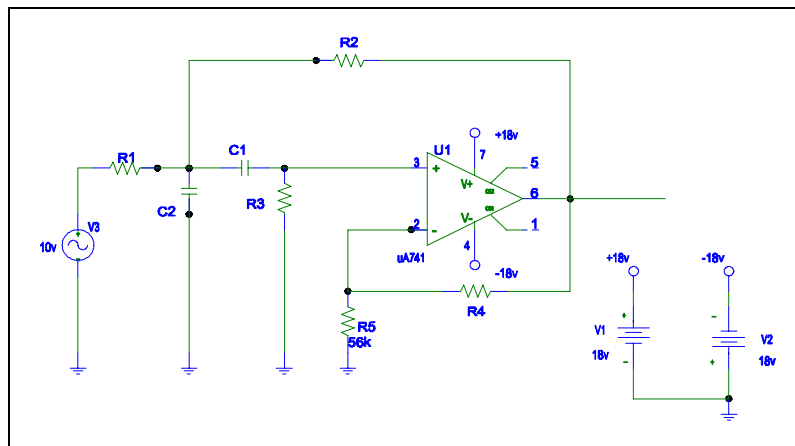

Figure 1. Band-Pass Filter
The circuit diagram for a band-pass filter is given in Figure 1. A band-pass filter is characterized by its center frequency, ω_0 , and its Q .
1. Design a band-pass filter using the circuit in Figure 1 that meets the following requirements;
1. Build the circuit shown in Figure 1, with a center frequency, f_c , of 22 kHz.